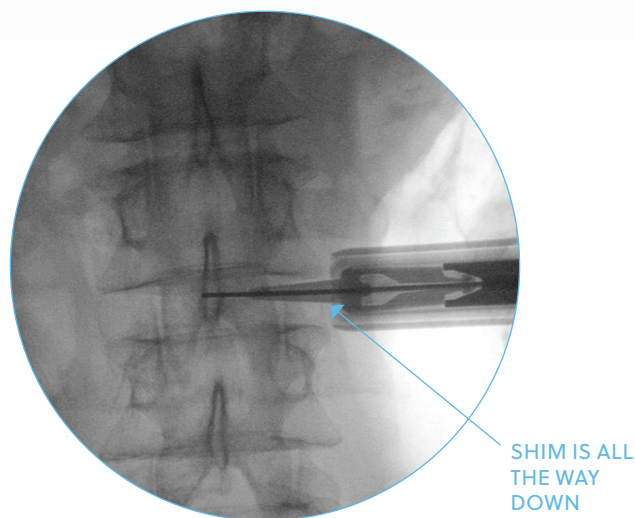

Figure 32
- Verify the intradiscal shim location using anterior/posterior fluoroscopy (**Figure 32**).